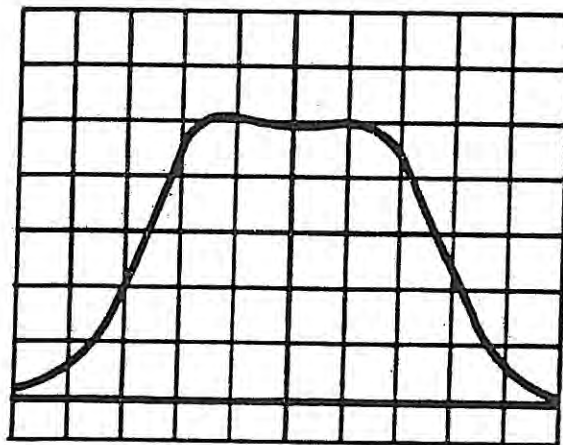

Figure A-8. Typical Response, 21.4 MHz Vertical Amplifier
- (3) Tune the sweep generator center frequency to 21.4 MHz, at a level of -25 dBm (12 mV). Establish a sweep width of about 5 MHz.
- (4) Set the oscilloscope for viewing a sweep response.
- (5) Adjust coils L1, L3, and L4 on Input Amplifier (A2A1A1) to obtain a detector response like that shown in Figure A-8. Then disconnect the high impedance detector.